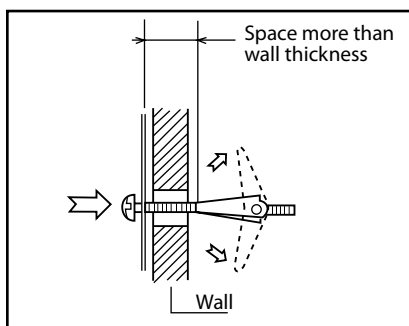

Figure 18
3. Position the Mounting Plate with the Toggle Bolts attached at the wall location and insert Toggle Nuts and Bolts through the holes in the wall with the Toggle Nuts closed. Figure 18. Use Wood Screws ① to attach the Mounting Plate to studs.